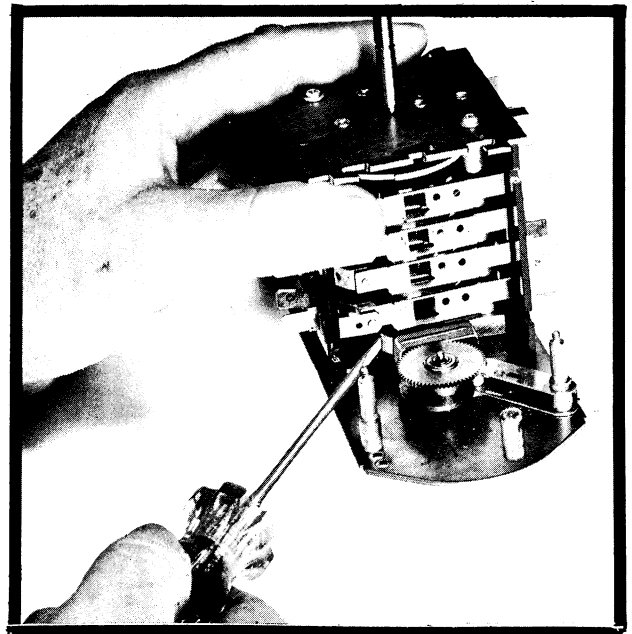

Figure 33
- Insert the blade of a small screwdriver in the opening of the arm near the contact and: with the edge of the Micarta terminal board as a fulcrum, open and close the contact to see that the activated contact is seating solidly against the stationary bottom contact, *Figure 33*. If the cam activated contacts do not make solid contact with the stationary contact, it should be adjusted as follows: